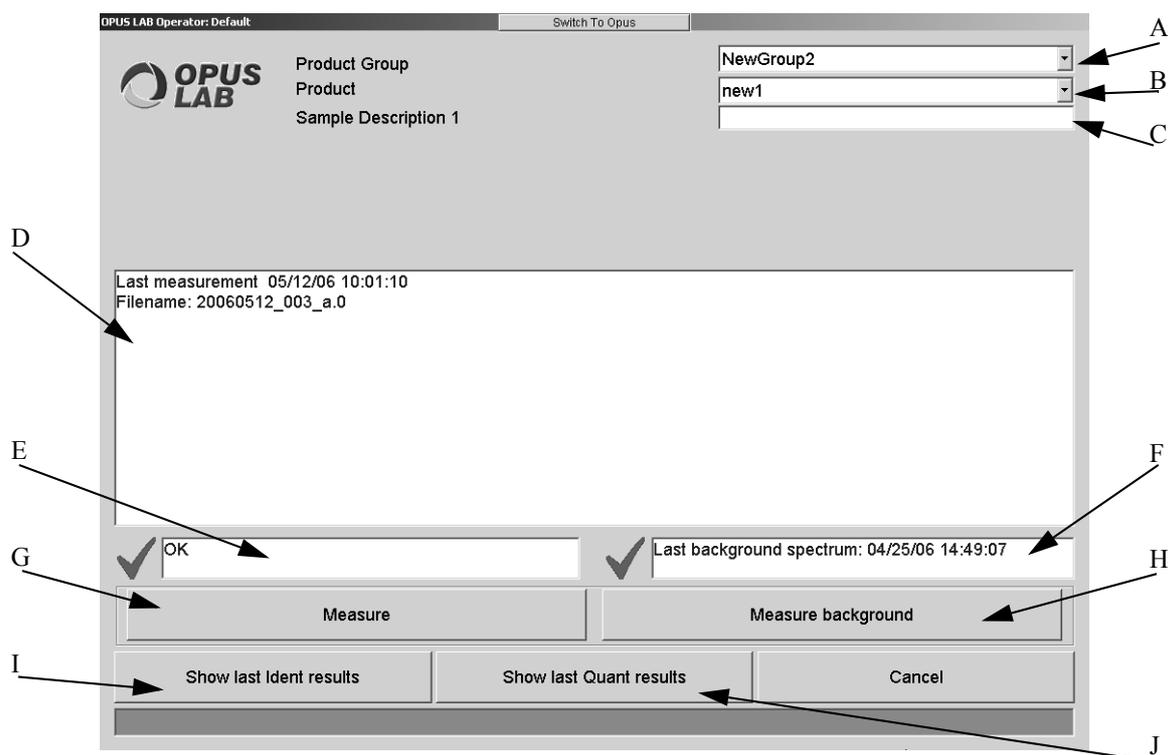

Figure 27: OPUS LAB single sample dialog
If you click on the *Start* button, the dialog for single samples opens (see figure 27).
- D) It is also possible to search for batch numbers. To be able to select batch numbers from the drop-down list you have to observe the following: *Field 1* on the *Product Info* tab in the *Product Setup* has to contain the user-specific description of the charge number. The actual number has to be entered into the corresponding entry field in the *Measurement* dialog (figure 27). The spectra will then get a batch number during measurement. In D you define for which batch numbers the statistical evaluation is to apply. Activate the *Batch Number* check box and select the batch number from the drop-down list. The list contains the last 20 batch numbers.
- G) To have the trend chart displayed you first have to select the statistical evaluation function (H) and click on the *Calculate Statistics* button. The trend chart can also be opened by right clicking into (G).